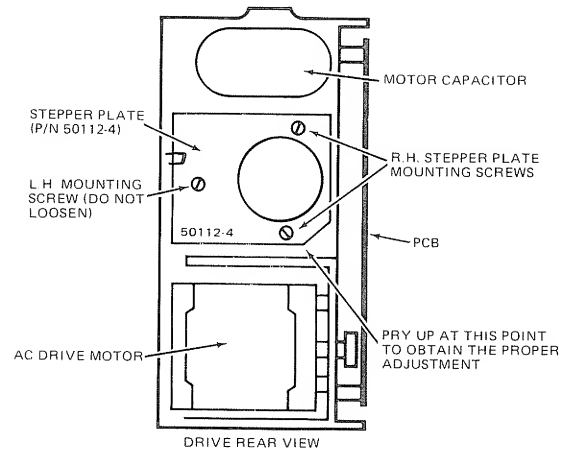

FIGURE 12
- Slightly loosen the 2 R.H. stepper plate mounting screws only. Reference Figure 12. Do not loosen the L.H. screw as this will effect the head penetration adjustment.